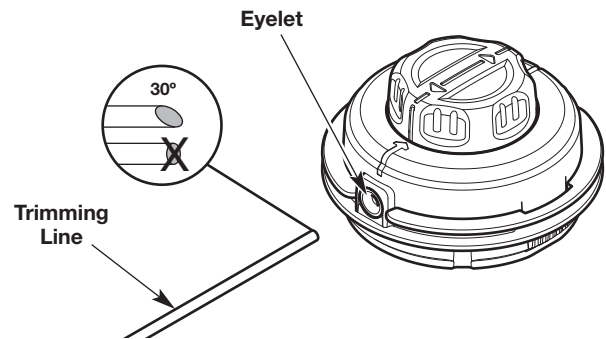
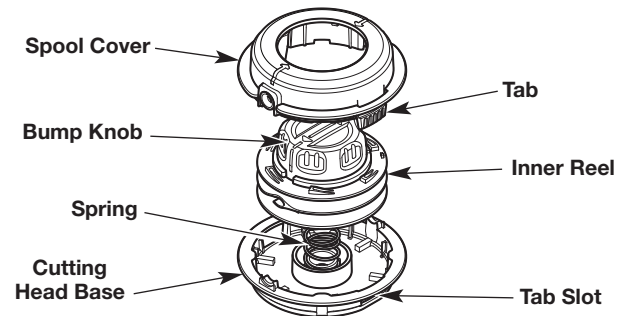

Fig. 21
Fig. 24
- Cut two 10-foot (3.0 m) lengths of new trimming line. Cut one end of each line at a 30 degree angle (Fig. 21).
- Insert one of the lines into an eyelet on the cutting head (Fig. 21). Use the angled end and push the line in about 3 inches (7.5 cm). Repeat this process with the other line and remaining eyelet.
- c. While holding the screwdriver in place, gently twist the screwdriver to unlock the tab from the tab slot (Fig. 24).
- d. Remove the spool cover (Fig. 24). **DO NOT** remove the spring from the cutting head base (Fig. 24).
- e. Push the bump knob through the spool cover. (Fig. 24). If the eyelets come off, reinsert the eyelets on the spool cover (Fig. 21).
- NOTE: DO NOT** separate the bump knob from the inner reel (Fig. 24).
- g. Use a clean cloth to clean the inner reel, cutting head base and spool cover (Fig. 24).
- h. Insert the bump knob and inner reel into the spool cover (Fig. 24).
- i. Align the tabs on the spool cover with the tab slots on the cutting head base (Fig. 24). Push the spool cover onto the cutting head base until the tabs securely snap into place.